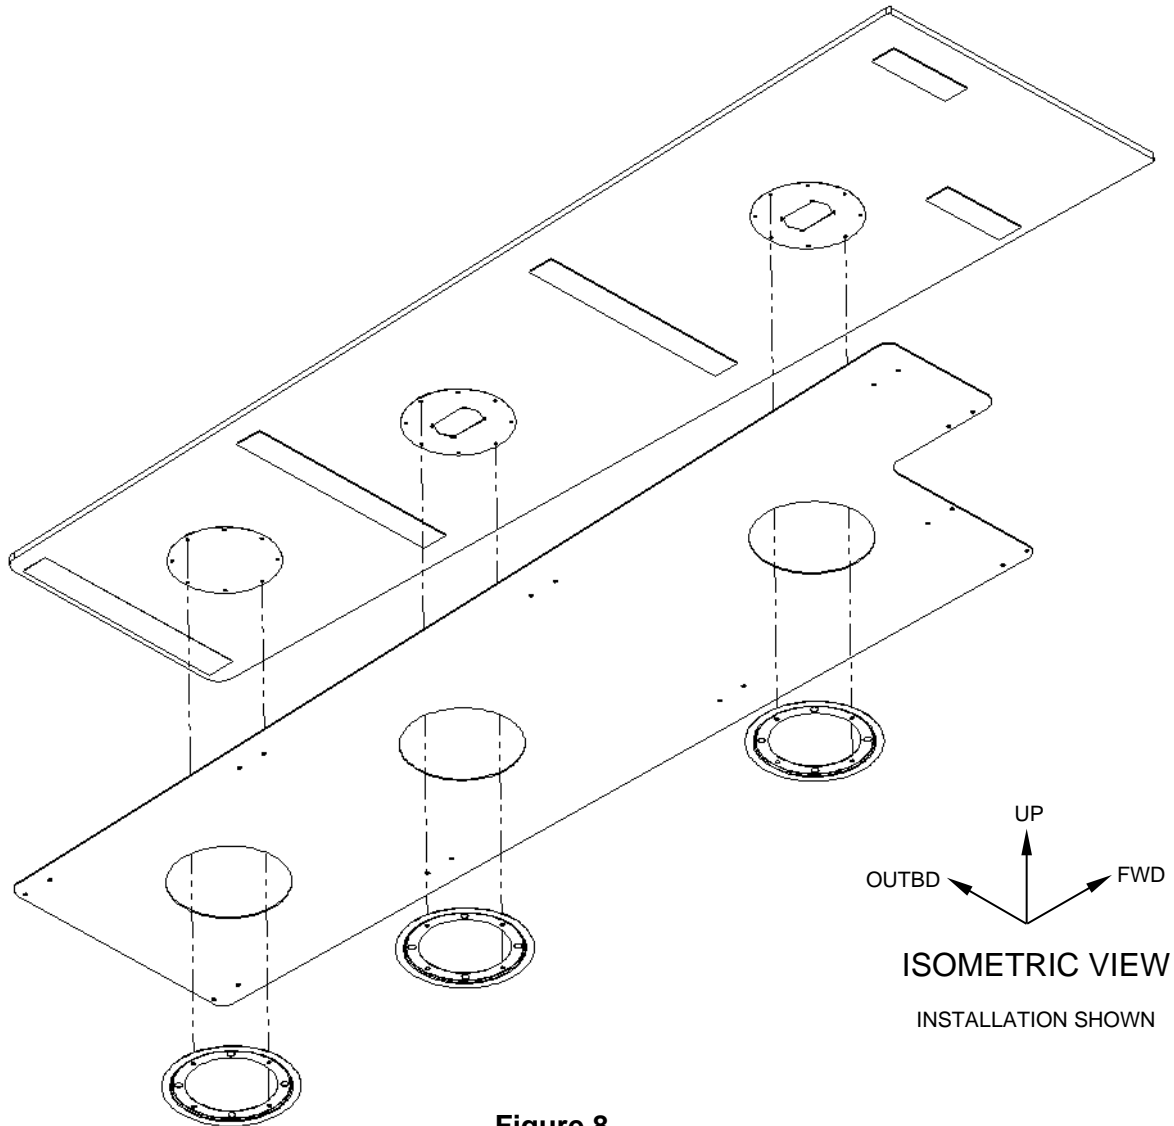

**Figure 7**
13. Remove every second fastener from the two light panels and one inspection panel that are fastened to the honeycomb panel. Reference Figure 7.